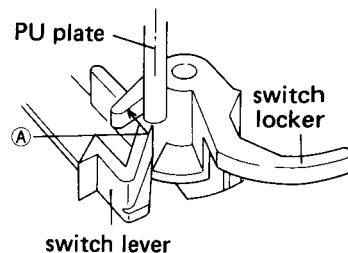

Fig. 4-7 Adjustment of switch locker
In order to turn the power OFF, the PU plate shaft touches surface ① of the switch locker pushing it over so it locks with the switch lever turning the microswitch OFF (Fig. 4-7). If the amount of push on the switch locker is insufficient, it can not lock with the switch lever. With the tonearm locked in the arm rest, as shown in figure 4-8, attach the PU plate precisely midway between the first and second points from the arm base scale mark counting away from you.